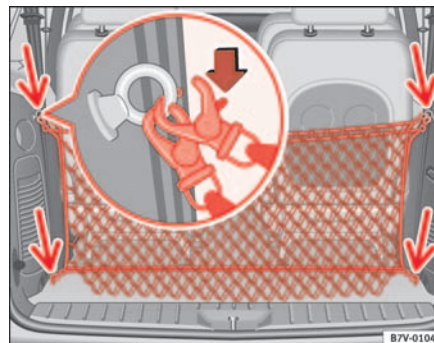

Fig. 116 Net partition fitted in the vehicle
- To remove the net bag unhook the six hooks ⇒ fig. 116 (arrows).